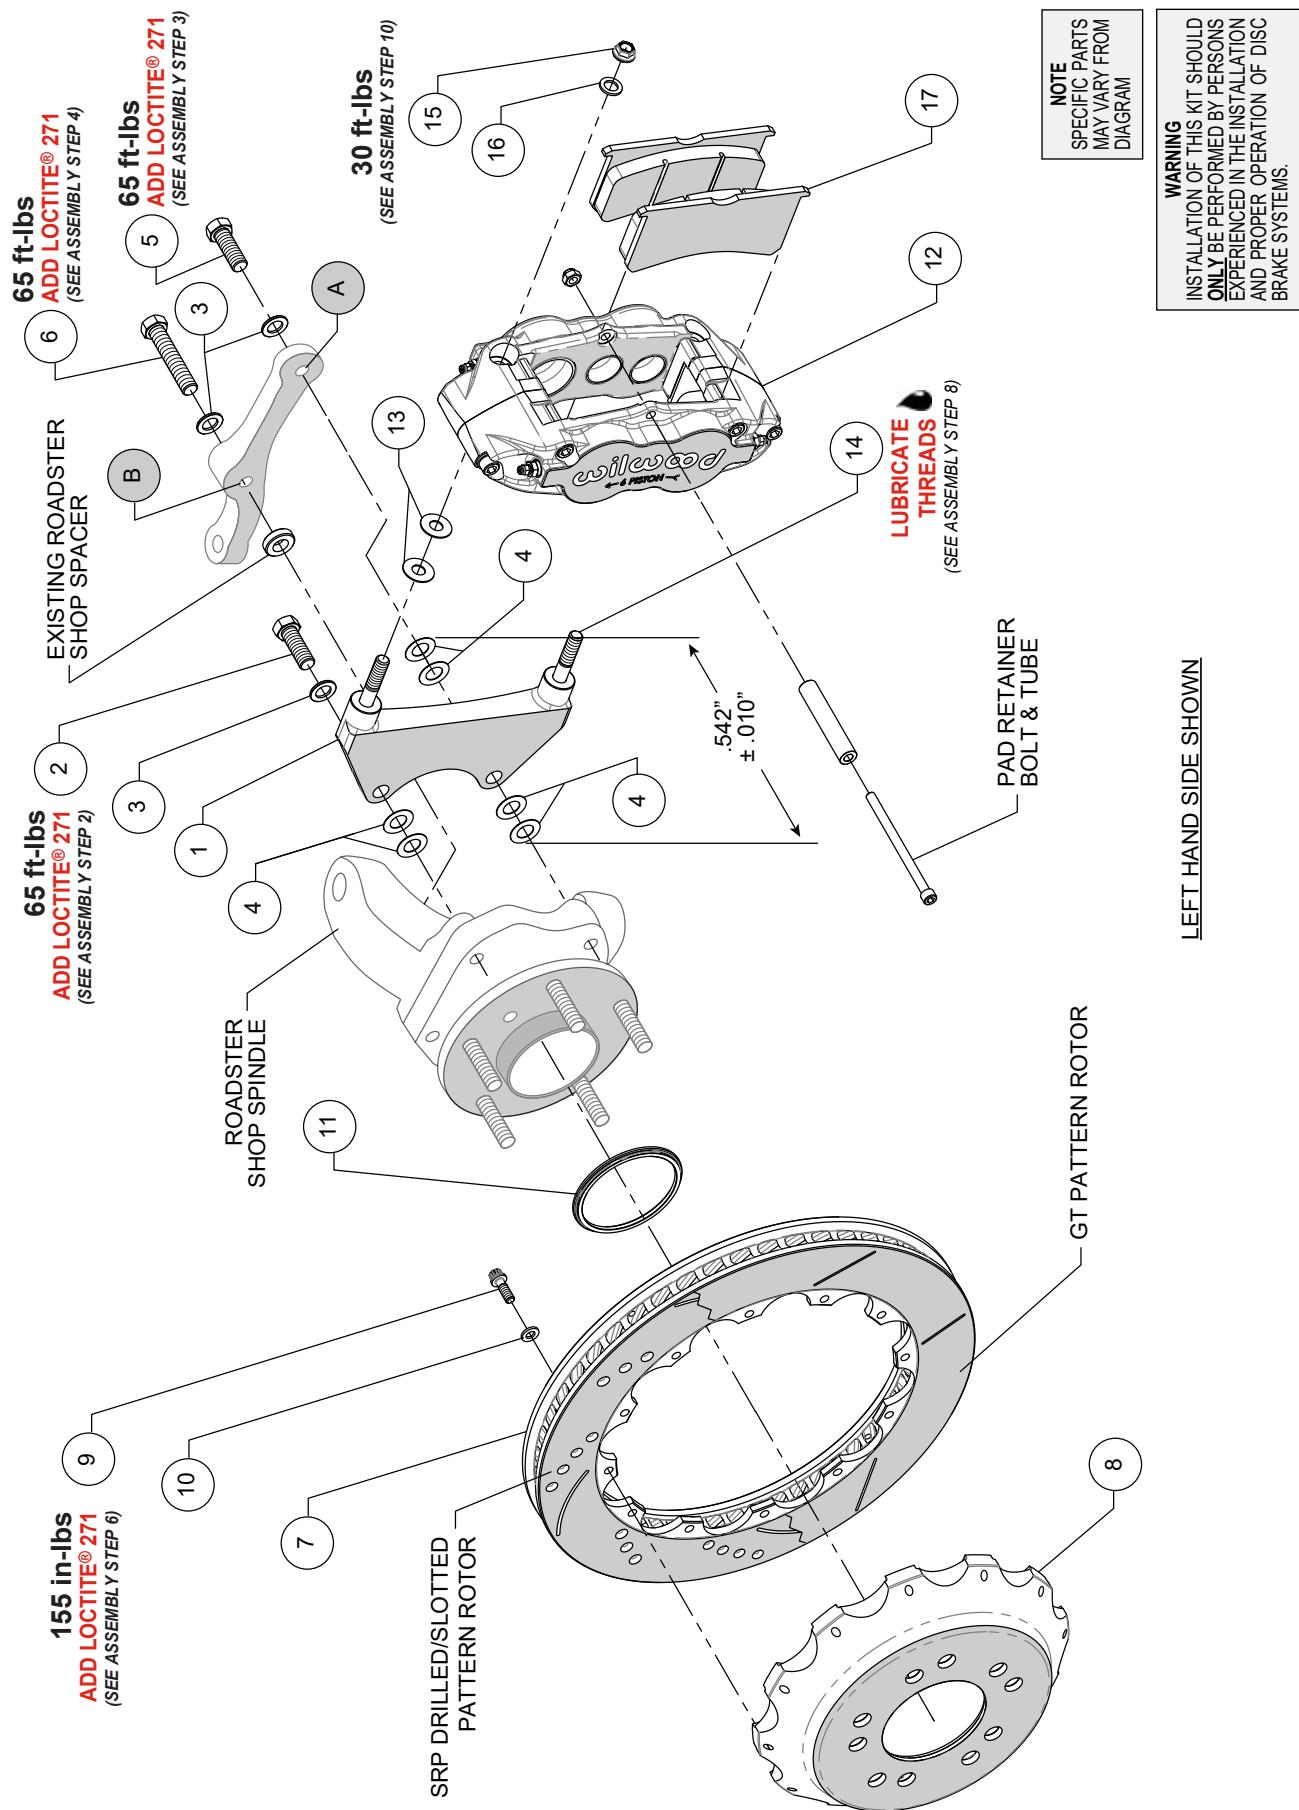

Figure 1. Typical Installation Configuration
NOTE: Numbers in parenthesis refer to the parts list and Figure 1 on the preceding pages.
STEP 1 The caliper bracket (1) should initially be installed with clean, dry threads on the mounting bolts. Orient the bracket as shown in Figure 1 and Photo 1.
STEP 2 Install the bracket (1) at top upright hole using 1.25" long bolt (2) washer (3), and two .016" thick shims (4) between the bracket and upright, Figure 1.
STEP 3 Orient the steering arm, and identify the hole marked 'A', as shown in Figure 1. Install at bottom upright hole using 2.00" long bolt (5) and .063" thick washer (3), two .016" thick shims (4) between the bracket and steering arm, and another two .016" thick shims (4) between the bracket and upright, Figure 1. The bracket is located between the steering arm and upright. **NOTE:** The bracket and shim washers must add up to a total thickness of $.542" \pm .010"$.
STEP 4 Finish attaching the steering arm through the hole marked 'B', as shown in Figure 1. Install using 2.25" long bolt (6), washer (3), and install existing spacer between the steering arm and spindle assembly., Figure 1.
STEP 6 Orient the rotor (7) and the hat (8) as shown in Figure 1, and Photo 2. Attach rotor to hat using bolts (9) and washers (10). Apply red Loctite® 271 to the bolt threads and torque to value shown in Figure 1 using a criss-cross pattern. For an added measure of security, the bolts may be safety wired using standard 0.032 inch diameter stainless steel safety wire as shown in Figure 3. Refer to Wilwood's data sheet DS-386 (available at www.wilwood.com/Pdf/DataSheets/ds386.pdf) for complete safety wire installation instructions.
STEP 7 Install the rotor registration adapter (11) onto the register of the hub assembly with the smaller O.D. facing outward, Photo 3. Slide the rotor/hat assembly (7/8) onto the hub, Figure 1, Photo 4. **NOTE:** The hat must fit flush against the hub face or excessive rotor run out may result.
STEP 8 **NOTE:** This kit contains distinct right and left hand calipers that must be mounted in a specific direction, as described below. Lubricate the caliper mounting studs (14) with lightweight oil. Initially place two .035" thick shims (13) on each stud (14) between the caliper and the bracket, as shown in Figure 1 and Photo 5. Mount the caliper (12) onto the bracket (1) using lock nuts (15) and washers (16), Figure 1. Temporarily tighten the lock nuts. Ensure that the caliper is mounted so the largest pistons are at the rotor exit end of the caliper, in relation to the forward rotation of the rotor. View the rotor through the top opening of the caliper. The rotor should be centered in the caliper, Photo 6. If not, proceed as follows:
• Adjust by adding or subtracting shims (4) between the bracket and the upright. Always use the same amount of shims on each of the two bolts between bracket and upright.
• For the lower bracket mount bolt, if a shim (4) was added between the bracket and upright, then a shim must be removed between the steering arm and bracket, such that the total thickness of bracket and shims remain equal to $.542 \pm .010$ ", Figure 1.
STEP 9 Once the caliper alignment is correct, remove the bracket mounting bolts one at a time, apply red *Loctite*® 271 to the threads, and torque to value shown in Figure 1.
STEP 10 Remove the caliper pad retainer bolt, nut, and tube from the caliper, see Figure 1. Insert the brake pads (17) into the caliper, with the friction material facing the rotor, as shown in Photo 7. Check that the top of the brake pad is flush with the outside diameter of the rotor, Photo 8. If not, adjust by adding or subtracting shims (13) on each stud between the caliper and the bracket /spacer. After the caliper pad height is set, torque the caliper lock nuts (15) to value shown in Figure 1. Secure the brake pads in place with the pad retainer tube, bolt, and locknut. The locknut should be snug without play in the bolt or tube. Be cautious not to over tighten.